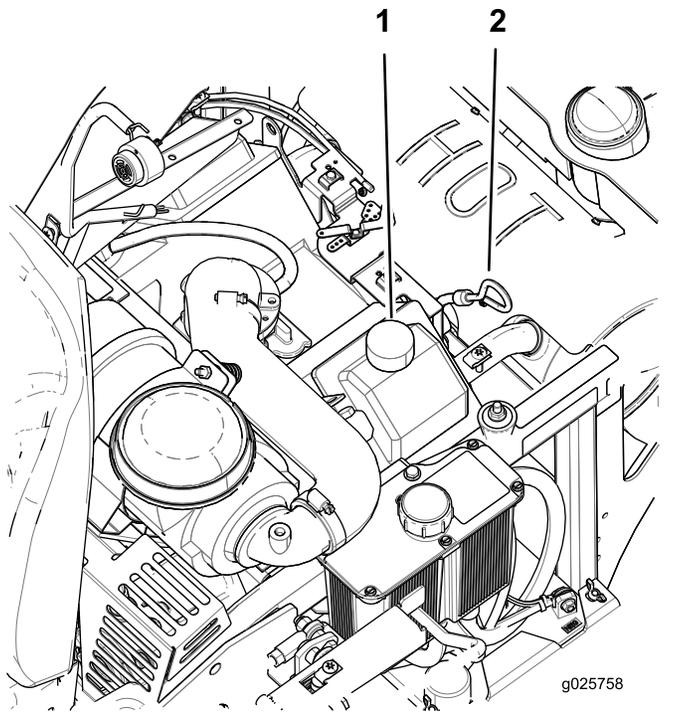

Figure 36
4. To keep dirt, grass clippings, etc., out of the engine, clean the area around the oil-fill cap and dipstick before removing it (Figure 36).
8. If the oil level is low, wipe off the area around the oil-fill cap, remove cap and fill to the **full** mark on the dipstick (Figure 36).
4. Slowly pour approximately 80% of the specified oil into the filler tube and slowly add the additional oil to bring it to the **full** mark on the dipstick (Figure 36).
5. Start the engine and drive to a flat area. Check the oil level again (Figure 36).